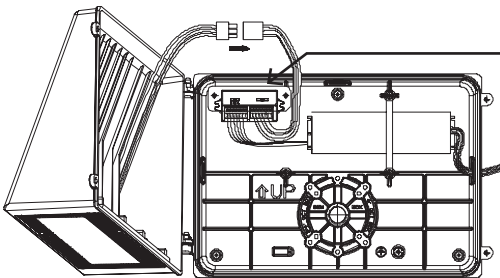

Fig 8
**4.** Attach the front housing with the rear housing, and connect the male and female connectors (Fig 8).